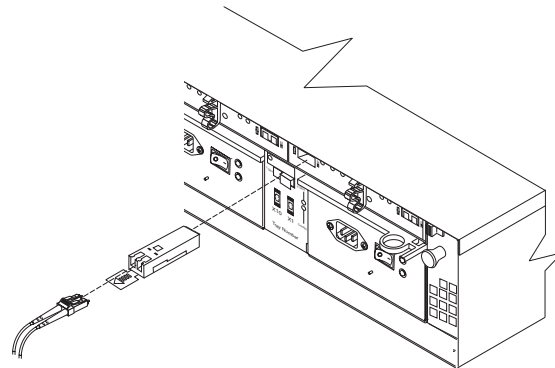

Figure 30. Installing an SFP module and connecting a LC-LC cable to the FASTT EXP700
4. Insert an SFP module into the SFP port located on the back of the FASTT EXP700; then, connect the other end of the LC-LC cable to the SFP module, as shown in Figure 30.